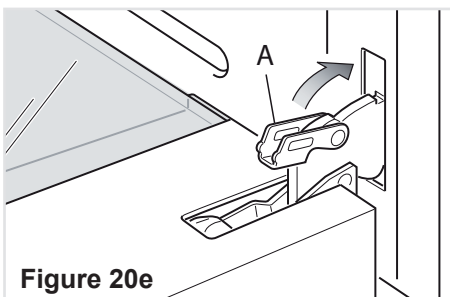

Figure 20e
- Unlock the oven door by opening it completely and closing the lever "A" on the left and right hinges (Fig. 20e).